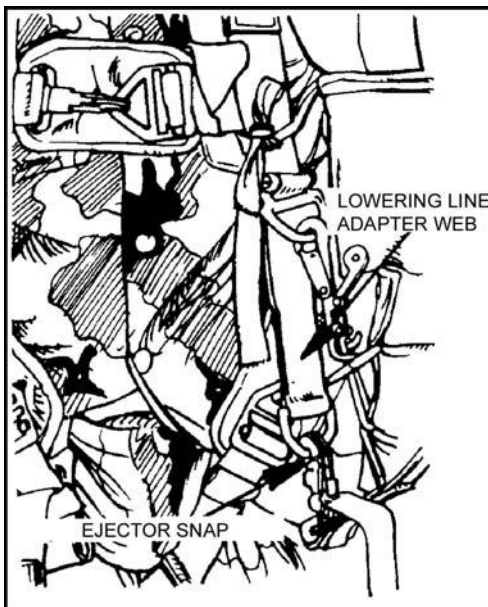

Figure 12-42. HPT lowering line attached.
- b. The lower tie-down tape is routed around the DMJP and the parachutist's left leg (Figure 12-42). A single-loop bowknot is tied on the front of the DMJP where it is easy for the parachutist to reach.